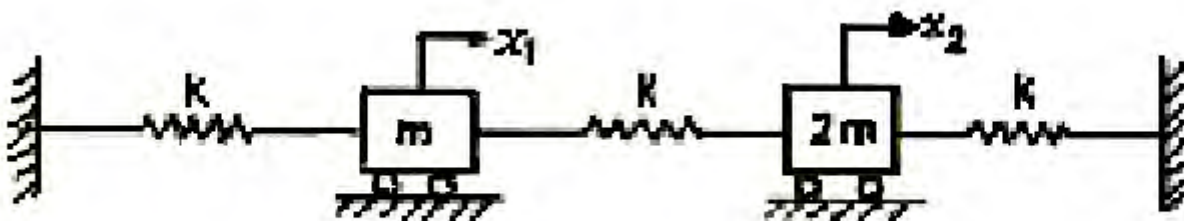

Figure 5:
5. Derive the equation of motion and find the natural frequencies and amplitude ratio of the system shown in figure 5. [16]